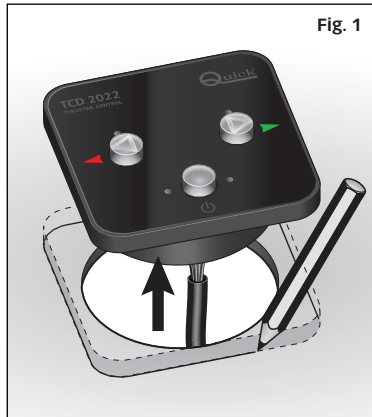

Fig. 1
- To avoid fitting the control in a crooked position, it is recommended to insert it into the hole without removing the protective paper from the gasket. After checking that the dashboard is correctly aligned; (Fig. 1) draw the control perimeter with a pencil; remove the control;